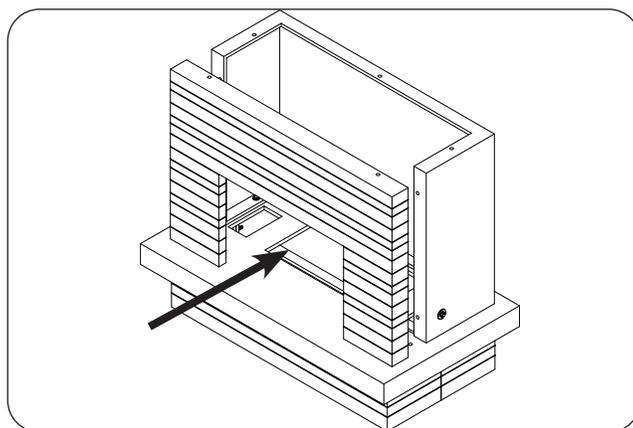

Fig. 21-1 Place fascia
1. Locate the fascia for the fireplace opening. Carefully mount the fascia to the body. See Fig. 21-1.